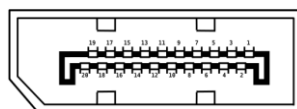

Figure 3-24: External DP Connector Pinouts
- CN Location:** See **Figure 3-24**